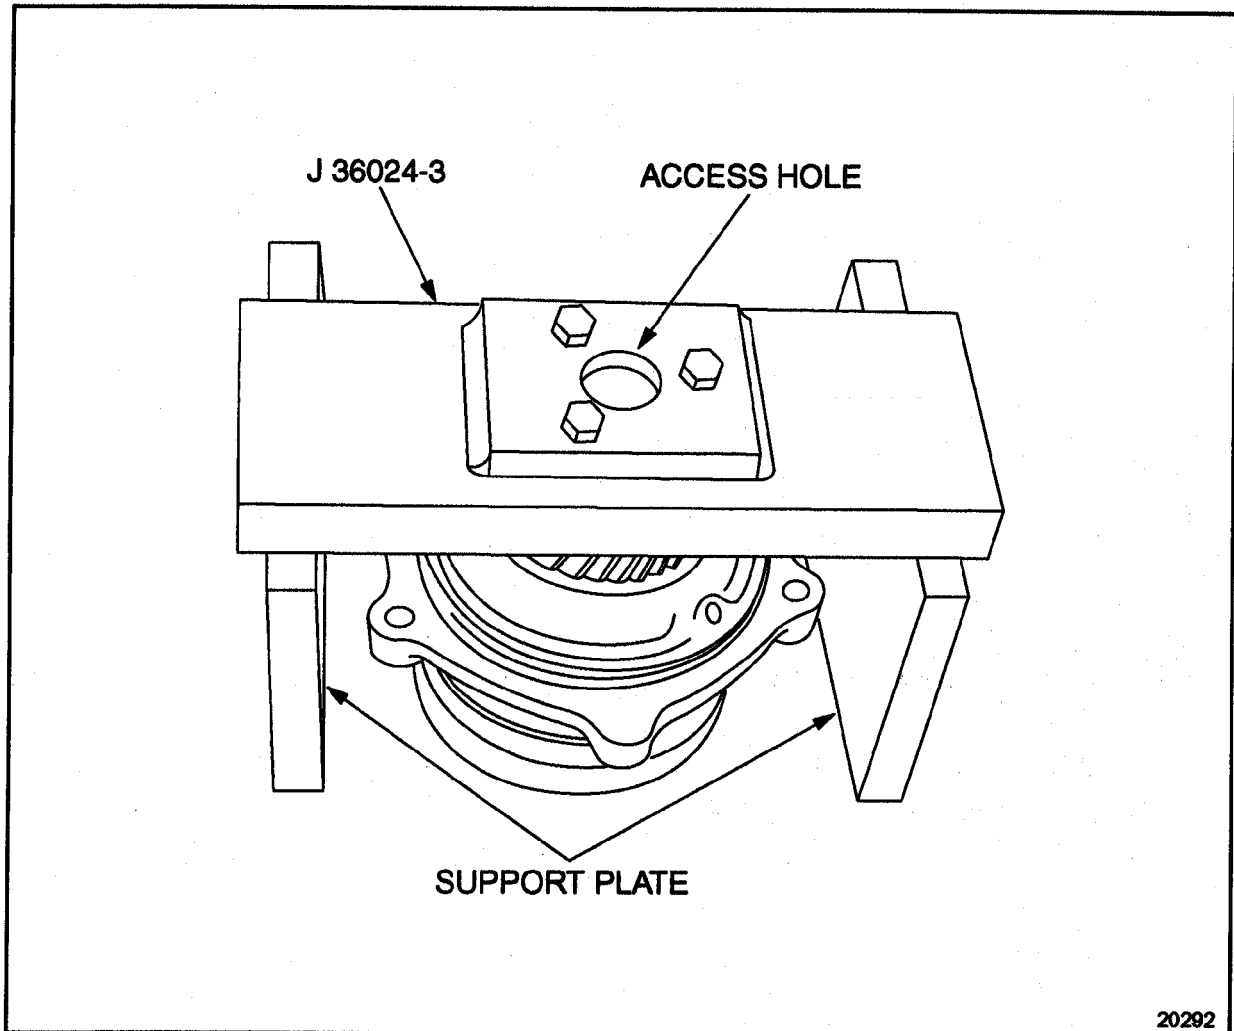

Figure 1-406 Accessory Drive Gear Removal
5. Position the accessory drive assembly on a press bed with the holding fixture supported. See Figure 1-406.
6. Using a press, apply pressure through the access hole in the holding fixture, J 36024-3 part of J 36024-C, and press the drive shaft out of the gear. See Figure 1-406.